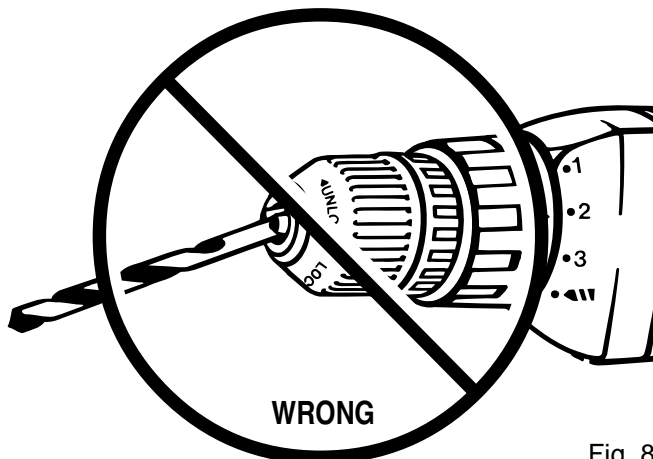

Fig. 8
- ⚠ **WARNING:** Do not insert drill bit into chuck jaws and tighten as shown in figure 8. This could cause drill bit to be thrown from drill resulting in possible serious personal injury or damage to the chuck.